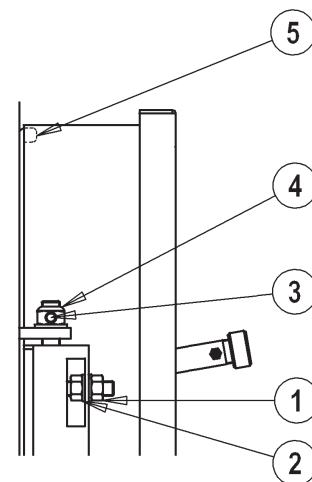

fig. 9
5.6.1 Per modelli PREXTHERM RSW 92N+600N (Fig. 9)